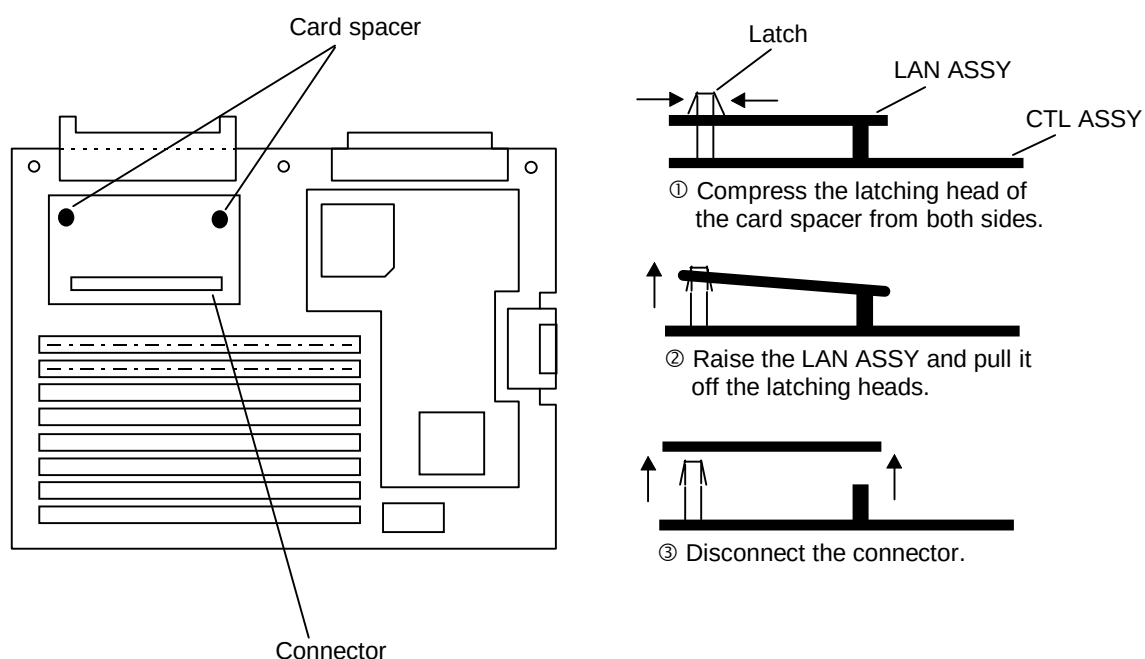

Figure 14.1 Replacing LAN ASSY (1)
- ② Open the side covers and remove the CTL ASSY. (See CK-REP0160.)
③ Pinch the latching heads of card spacers with needle-nose pliers etc. , then pull the LAN ASSY up with care not to touch with surrounding parts. (See Figure 14.1.)